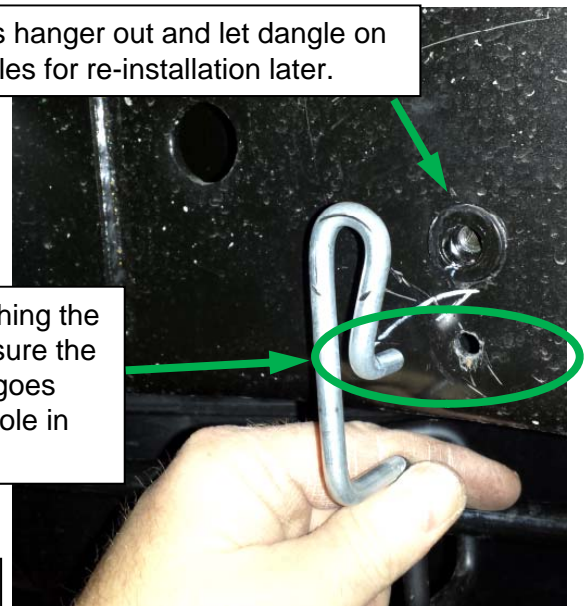

Figure 9
17. Detach the emergency brake cable hanger that is attached to the drivers side frame with a self-tapping 13mm screw. This hanger will be re-attached to the driver side forward bracket once installed using a 5/16" hex bolt item 19. See Figure 9.
33. Torque the brake cable hanger bracket screw (see Figure 9) to 19 ft.-lbs.